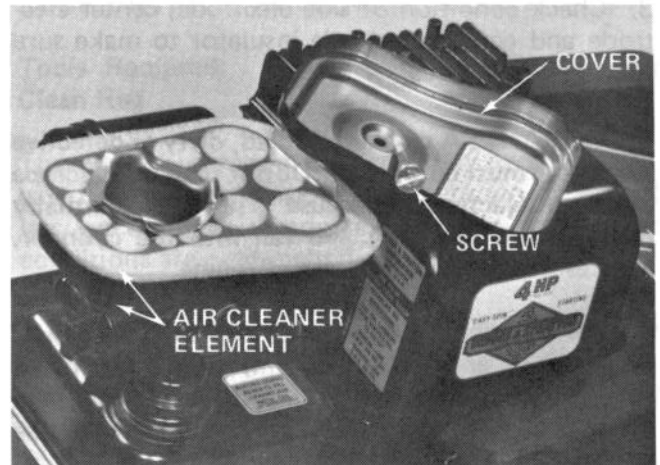

Figure 20
2. Remove screw and cover to expose air cleaner element (Fig. 20).